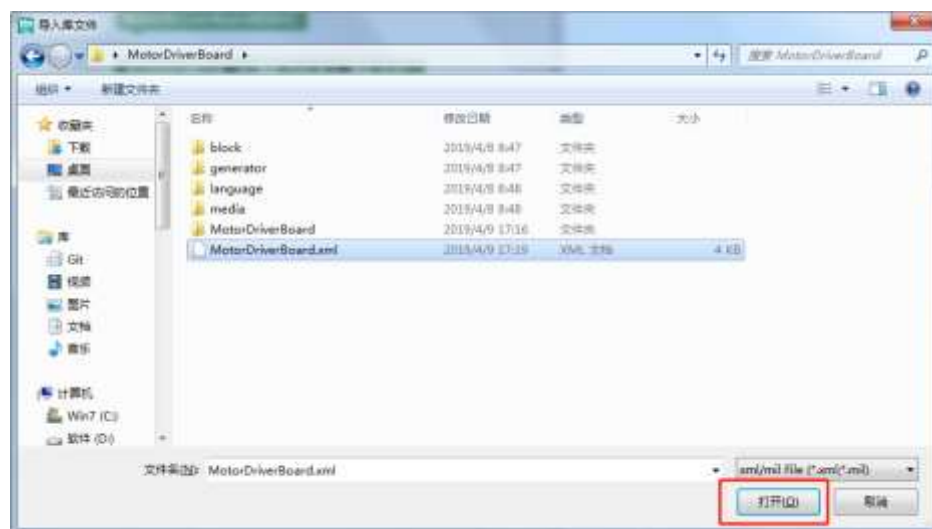

Figure 2-1-2
- 3) Click the motordriverboard.xml file, and then click "open", as shown in figure 2-1-2;